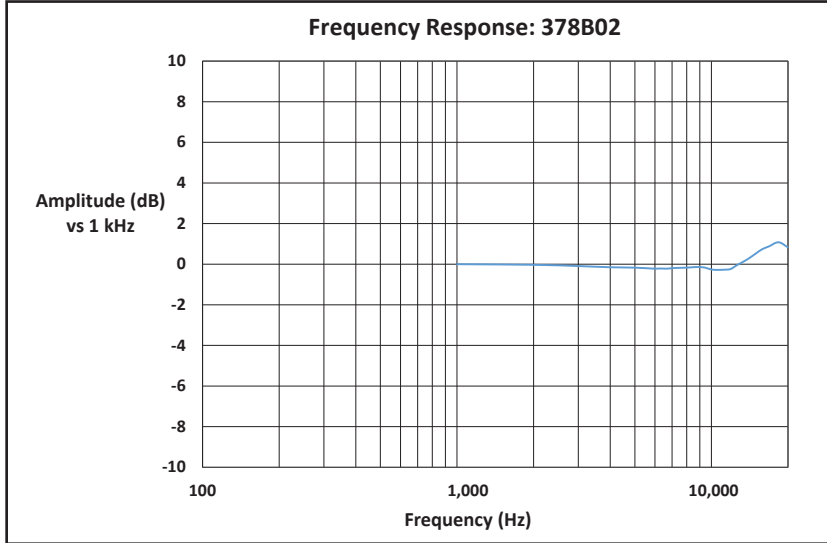

Figure 6: The frequency response of the 378B02 was measured by comparison to a reference microphone and conforms closely to the supplied calibration curves.
On test, the noise floor—determined by the BLANK method I described earlier—easily met specification, clocking in at a moderately quiet 15.1 dB, A-weighted, well under the specified 16.5 dB(A) maximum. **Figure 6** shows the measured frequency response above 1 kHz, and is within 0.4 dB of the calibration sheet data. Sensitivity at 94 dB SPL (1 Pa) measured 48.5 mV, within measurement error of the supplied calibration. This microphone is suited to precision loudspeaker or other acoustic transducer measurement.